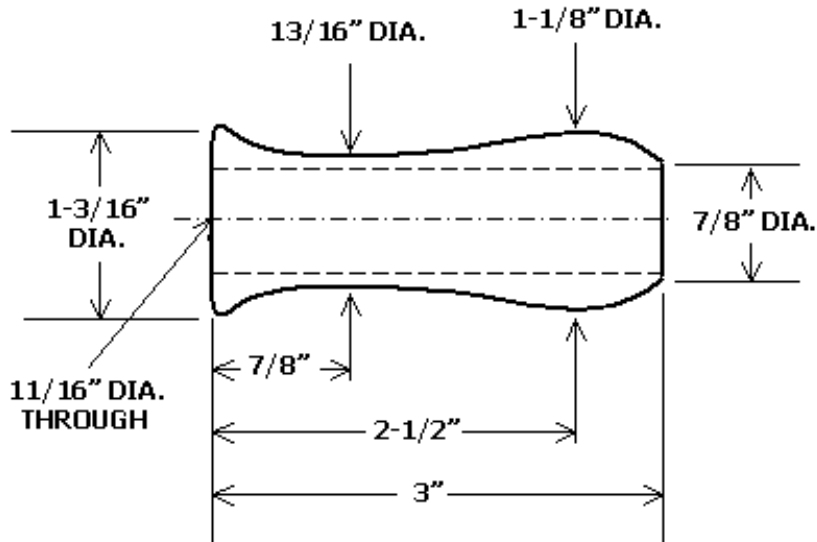

Figure 4. Handle
Handle (See Figure 4, below)
9. Turn to the final contour, sand to final finish. Because the flange end is the stronger end, turn the handle contour so that this end is on the jam chuck. See Figure 4. The shape and dimensions shown in this figure are suggestions only. Your artistic inspiration may differ. I avoid adding texturing, beading, etc., here that might trap flour and dough, making cleaning more difficult.